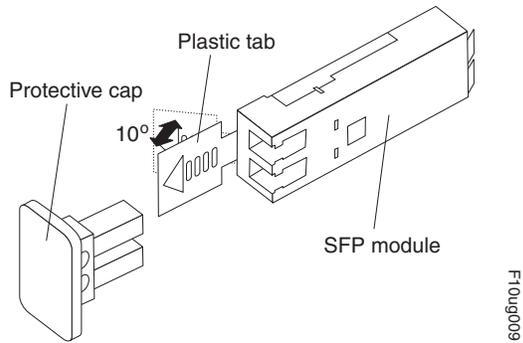

Figure 36. Unlocking the SFP module latch - plastic variety
- For SFP modules that contain plastic tabs, unlock the SFP module latch by pulling the plastic tab outward 10°, as shown in Figure 36 on page 54.